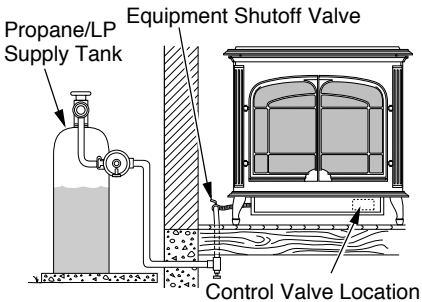

Figure 18 - Checking Gas Joints
3. Check all joints from gas meter for natural or propane/LP supply to equipment shutoff valve (see Figure 18 or 19, page 14). Apply a noncorrosive leak detection fluid to gas joints. Bubbles forming show a leak.
4. Check all joints from equipment shutoff valve to control valve (see Figure 18 or 19). Apply a noncorrosive leak detection fluid to gas joints. Bubbles forming show a leak.